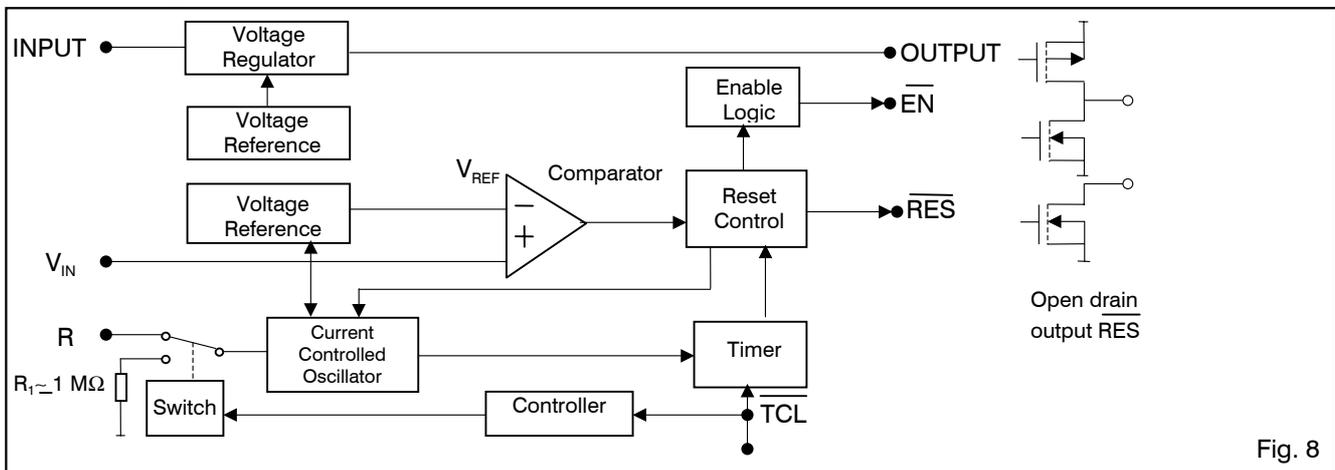

Fig. 8
- ²⁾ Full operation guaranteed. To achieve the load regulation specified in Table 3 a 22 μF capacitor or greater is required on the INPUT, see Fig. 8. The 22 μF must have an effective resistance $\leq 5 \Omega$ and a resonant frequency above 500 kHz.
- ⁶⁾ The comparator and the voltage regulator have separate voltage references (see "Block Diagram" Fig. 8).